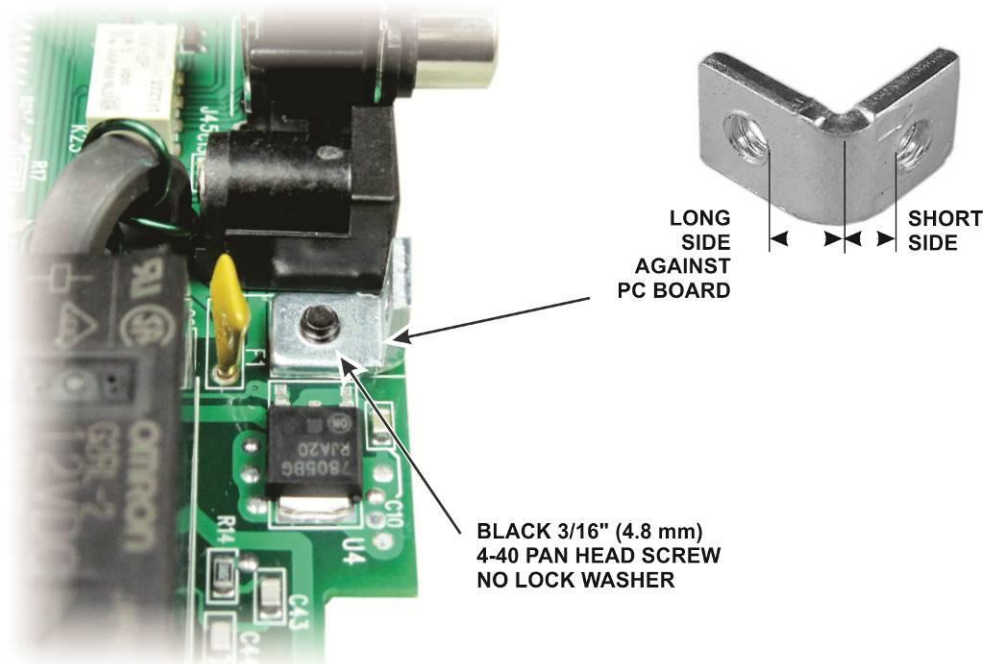

Figure 11. Installing the Angle Bracket.
- Mount the angle bracket at LB1 on the pc board as shown in Figure 11. Note that it has a long and short side. Be sure the long side is against the pc board as shown.